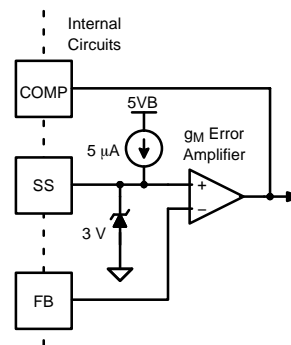

Figure 27. FAN9611 Error Amplifier Configuration
Implementing this function with a circuit external to the FAN9611 is straightforward because the error amplifier reference (the positive input) is available on the soft-start (SS) pin, as shown in Figure 27. In the FAN9611 architecture, the power of the converter is proportional to the voltage on the COMP pin, minus a small offset. The voltage